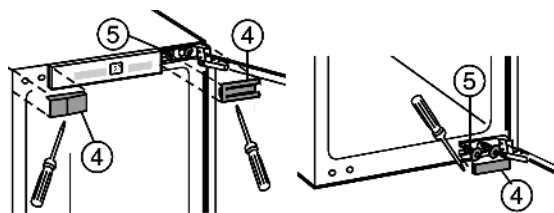

Fig. 2
- ▶ Remove the covers Fig. 2 (4).
- ▶ Just loosen the fixing screws Fig. 2 (5).
- ▶ Swap the fixing screws Fig. 2 (5) on the top and bottom to the opposite side.
- ▶ Hang the appliance door on the pre-fitted fixing screws Fig. 2 (5).
- ▶ Tighten the fixing screws Fig. 2 (5).
- ▶ Re-attach the covers Fig. 2 (4).